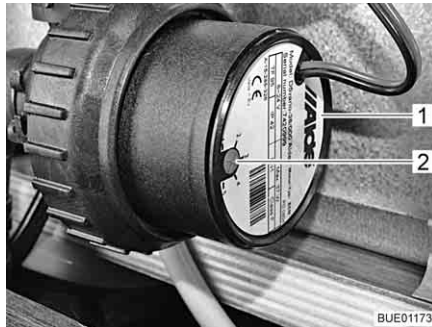

Fig. 137 Speed reduction
The rotational speed of the circulating pump can be set with the control knob (Fig. 137,2). At a lower rotary speed, the operating sounds of the pump are quieter.
The control knob is located on the circulating pump (Fig. 137,1).
- Turn the control knob (Fig. 137,2) in an anticlockwise direction. The output is reduced.